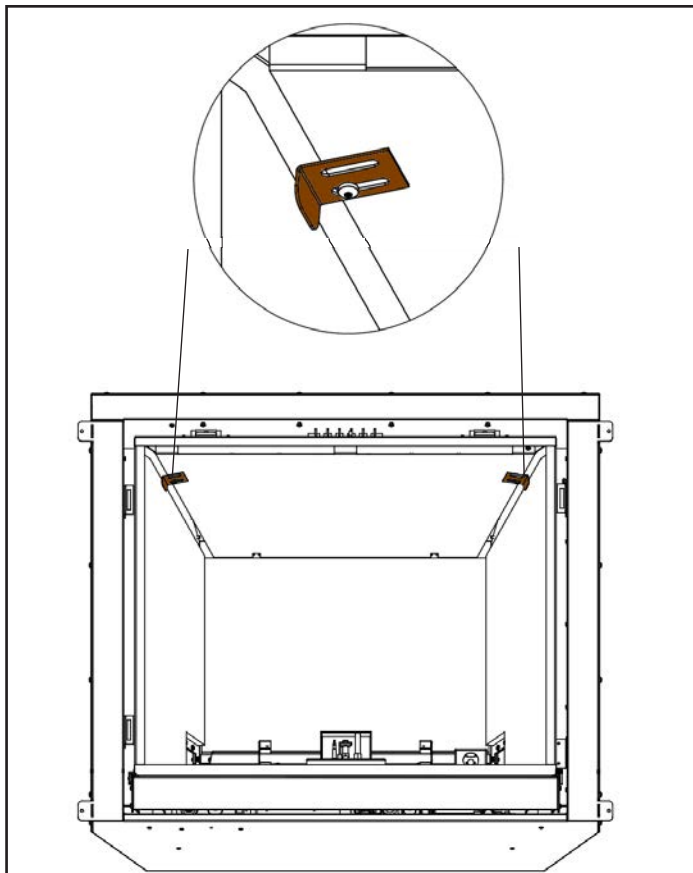

Figure 36. Liner panel retainers
**Step 3:** Screw the (2) retainer brackets into the existing exhaust baffle with the supplied #8 T-20 bolts. Before tightening press the retainer onto the panel firmly. Tighten them once the panels seem to be in the correct position. (See Figure 36)